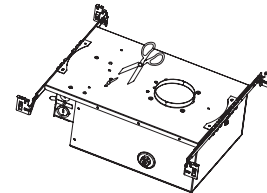

FIG. 1
2. Hanger bars include a captive mounting "screw-nail" for ease of installation (See **FIG. 1**). Align the bottom of the hanger bar with the bottom of the wood joist. Secure the "screw-nail" on each end by screwdriver (See **FIG. 2B**), or by hammer (See **FIG. 2C**).